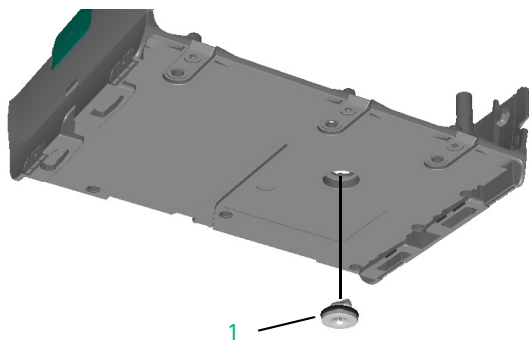

Fig. 3 - 45
3. If the housing, bottom part (Fig. 3 - 44 / Item 3) has to be replaced, additionally remove the housing front (see "Housing front" → p. 3 - 22) and the lock screw (Fig. 3 - 45 / Item 1).